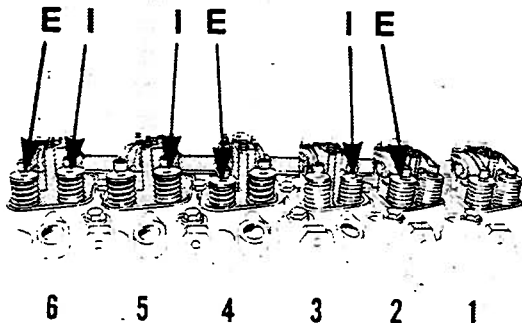

Figure 4-10. Valves Checked at 180° to TDC
h. Set valve clearances indicated in figure 4-10.